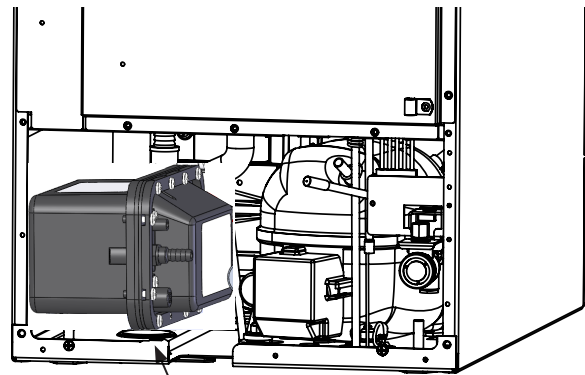
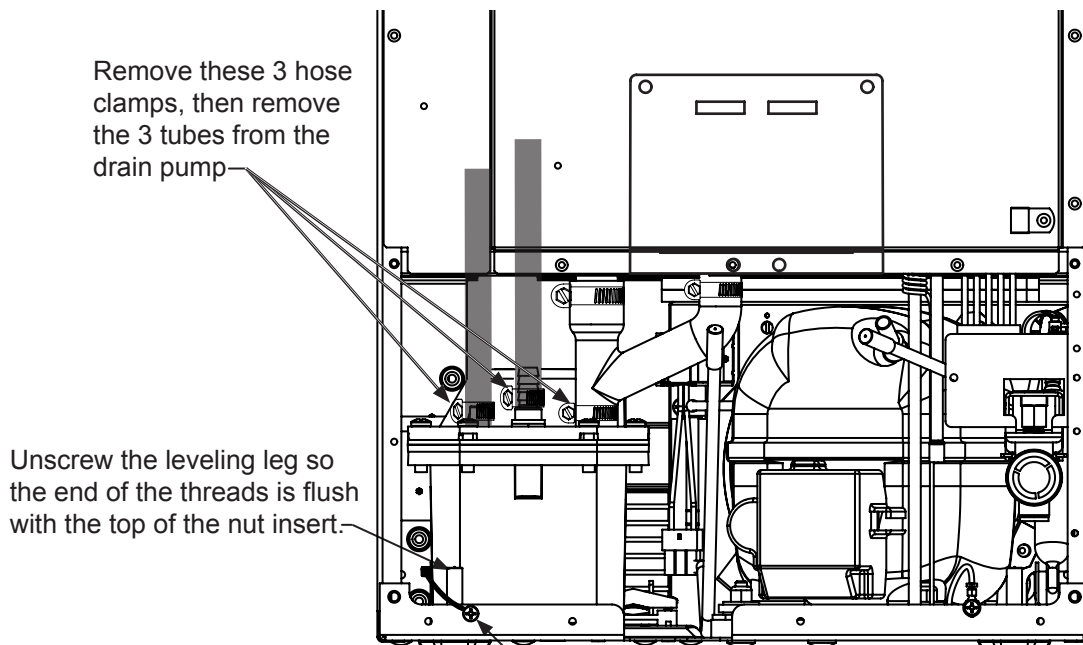

Figure 42
Figure 43
2. Unscrew the leveling leg in the back corner until the end of the threaded portion is flush with the threaded nut insert in the base. (see Figure 43).
3. Unscrew the 3 hose clamps and remove the 3 hoses from the front of the drain pump. (See Figure 43).
4. Rotate the drain pump and remove from the ice machine, (See Figure 42). It may be necessary to disconnect the ground wire connection in the back flange of the cabinet. (See Figure 43).